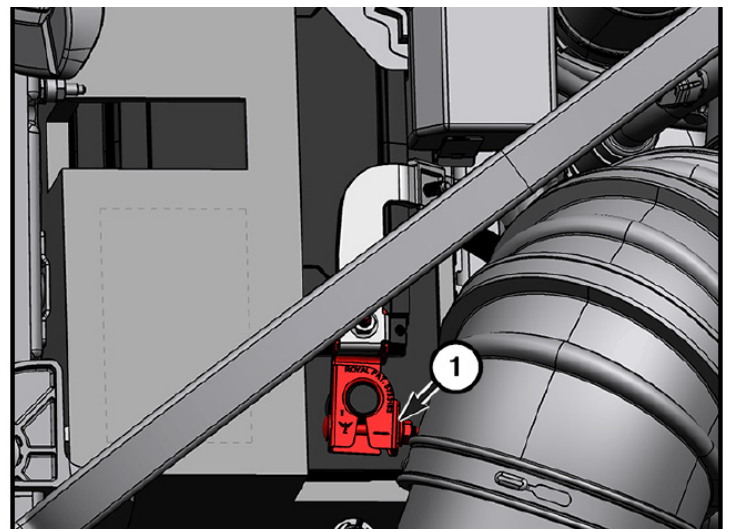

Figure 2
**3. If applicable, disconnect the negative terminal from the auxiliary battery. (Figure 2)**